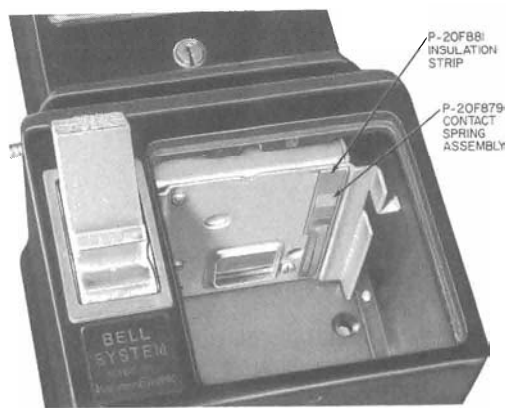
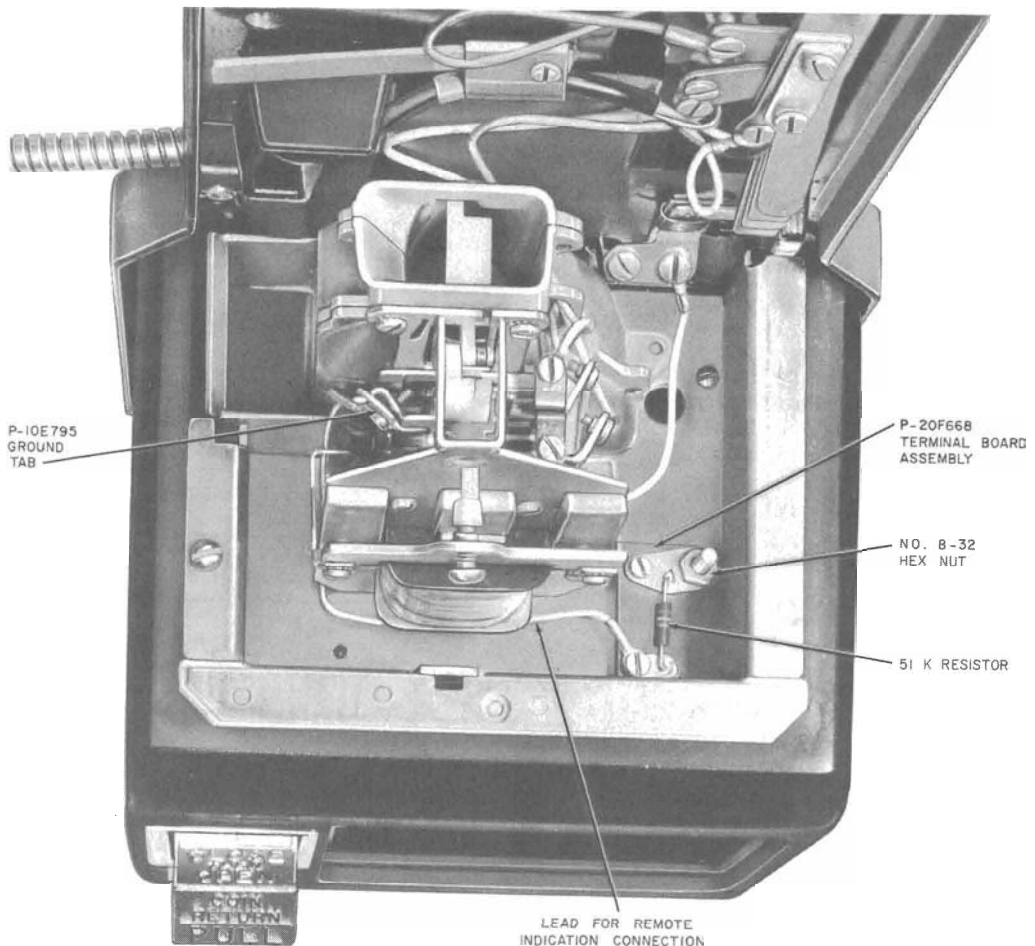

Fig. 7—Installation of Insulation Strip and Contact Spring Assembly
Fig. 8—Installation of Terminal Board Assembly
- (b) Thread (BK) and (Y) leads of chassis through hole on coin hopper. Connect (BK) lead to terminal 3 and (Y) lead to terminal G of coin relay.
- (8) Position the insulation strip against the 1B rail with the boss on the strip in the 1/4-inch mounting screw hole (Fig. 7). Hold the contact springs in place with the stud extending through the hole drilled in the base, and fasten the terminal board in place on the housing base with the nut provided (Fig. 8).
4.02 The lead provided with the D-180042 kit is equipped with a screw clamp to facilitate fastening to the ground tab (P-10E795) on the coin relay (Fig. 8). Care must be taken not to alter the adjustment of the coin relay by bending the spring member. Connect the spade tip of the lead to the front terminal on the terminal board.